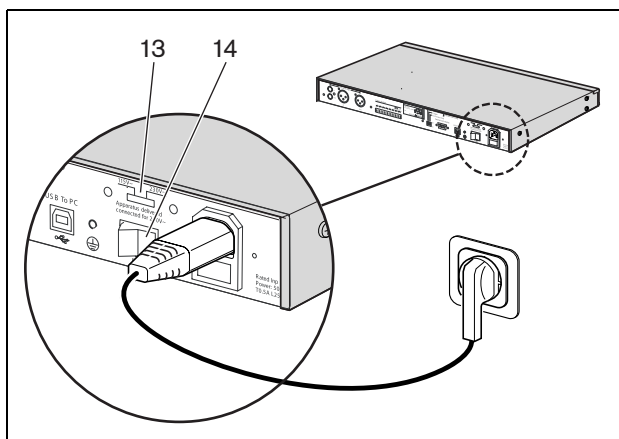

figure 3.8: Mains lead
- 1 Make sure the power switch (14) on the rear of the Timer is set to the “O” position (see figure 3.8).
- 2 Make sure the voltage selector (115V/ 230V) (13) is correctly set for the country's main voltage (see figure 3.8).
- 3 Use the mains lead to connect the Timer to the power supply (see figure 3.8).